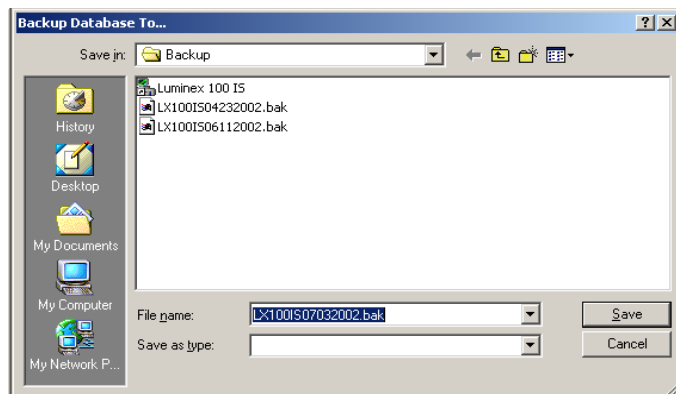

Figure B-18 Backup Database To... Dialog Box
- On the **Tools** menu, click **Database Backup**. The **Backup Database To...** dialog box opens. See Figure B-18.